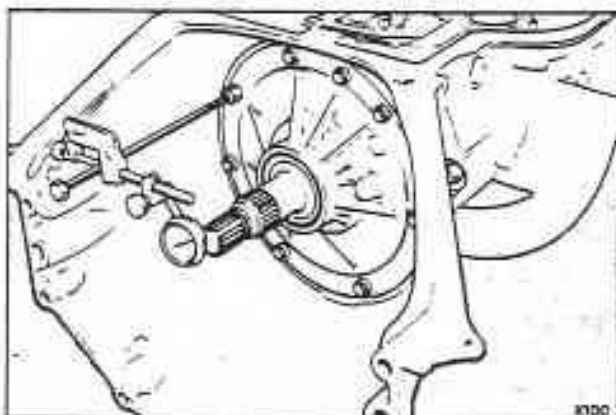

Fig. T16-9 Checking the front unit end-float
5. Check the front unit end-float as follows (see fig. T16-9).